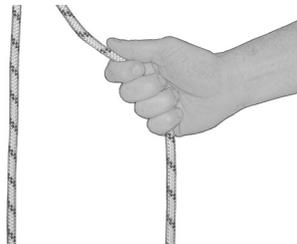

Figure 6
1. Attach the rescue rope carabiner to the anchor point. Attach the device carabiner to the harness attachment point (marked with A) or approved body holding device in accordance with its user instruction. Remove any slack between you and the device by pulling the trailing rope upwards. Hold on to the trailing rope, see figure 6, while transferring the load into the device. Carefully swing free of the platform and ease the grip around the trailing rope to begin the descent.